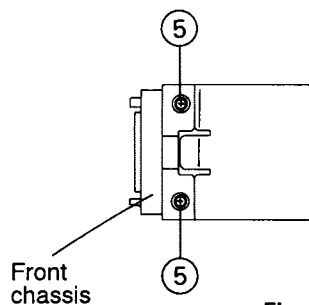

Fig. 4-6
3. After turning over the body upside down, remove the right side two screws (5) retaining the front chassis (See Fig. 4-6).